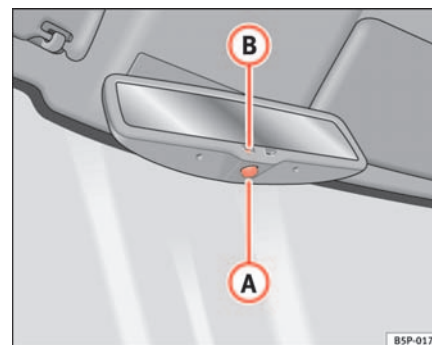

Fig. 69 Automatic anti-dazzle interior mirror.
- Press button (A) ⇒ fig. 69. Warning lamp (B) goes out.
- Press button (A) ⇒ fig. 69. Warning lamp is lit.